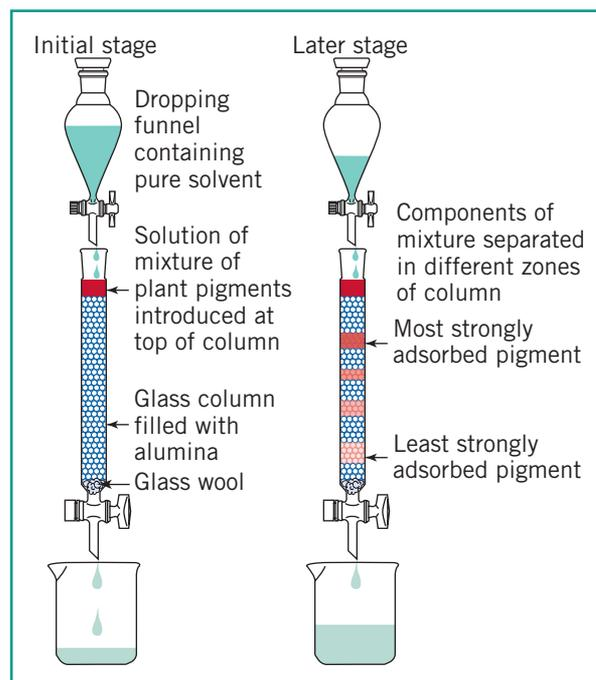

Figure 1.26 Separation of plant pigments by column chromatography
*Column chromatography* can be used, for example, to separate the various pigments found in plant matter. A solution of the pigments is passed through a column packed with alumina, as shown in Figure 1.26. The different pigments will pass through the column at different speeds, depending on the strength with which they adhere to the alumina. The less strongly adsorbed components pass more quickly through the column than those that are adsorbed more strongly. The pigments can be collected as they wash out of the column.